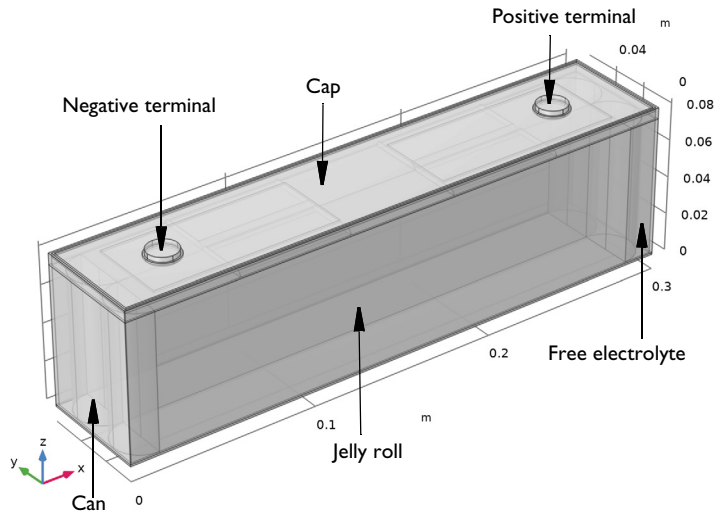

Figure 2: Single prismatic battery cell.
The individual geometry parts that are used to build the battery pack geometry are shown in Figure 2 through Figure 4:
- Figure 2 shows a single prismatic battery cell consisting of two jelly rolls. The different components of the single prismatic battery cell are discussed in detail in the Application Libraries example Cooling of a Prismatic Battery.